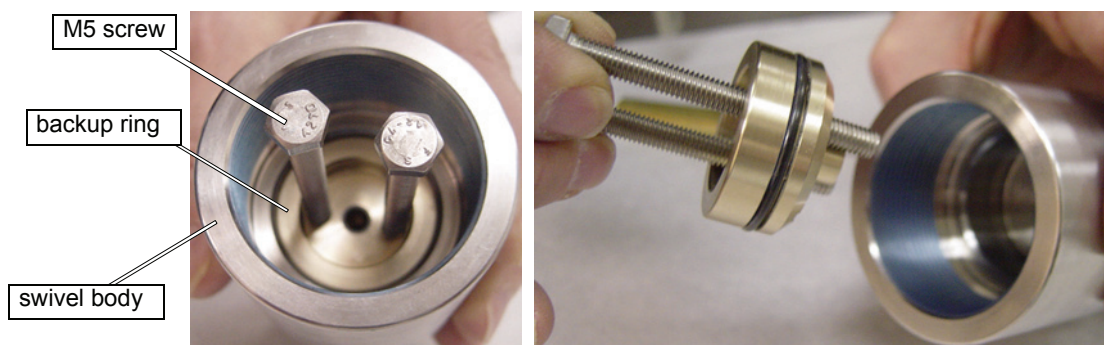

Figure B-7: Use the two M5 Screws to Remove the Back-up Ring
4. Screw both the **M5 screws** (Figure B-7) into the threaded holes in the **back-up ring** and gently pull the back-up ring from the **swivel body** applying an even, steady pressure: